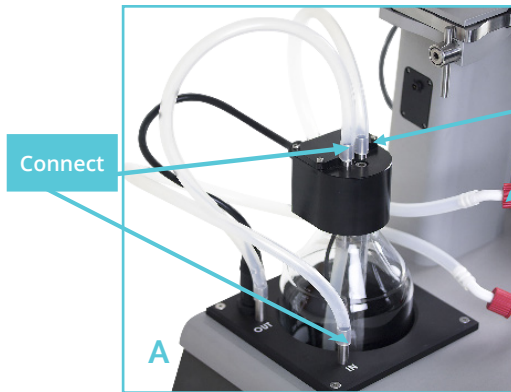

*Fig.7. Place the Water Jacketed Buffer Reservoir on the MyoHEART system.*
- Place the Water Jacketed Buffer Reservoir (fig.7.A.) on the MyoHEART system (fig.7.B.)